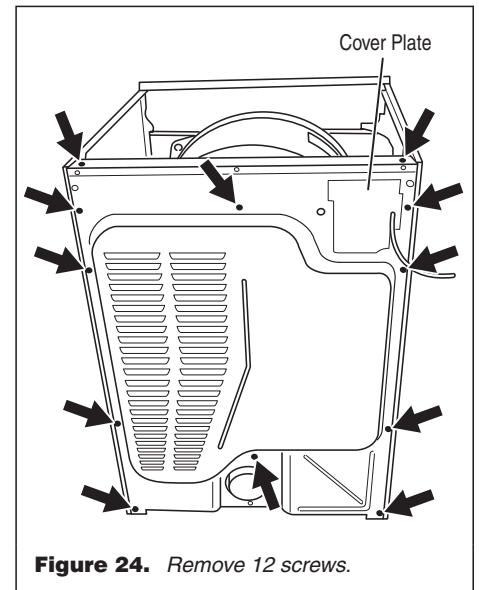

Figure 24. Remove 12 screws.
4. Remove two screws on the back panel's top edge, which connect the back panel to the side panels' top edges. See figure 24.